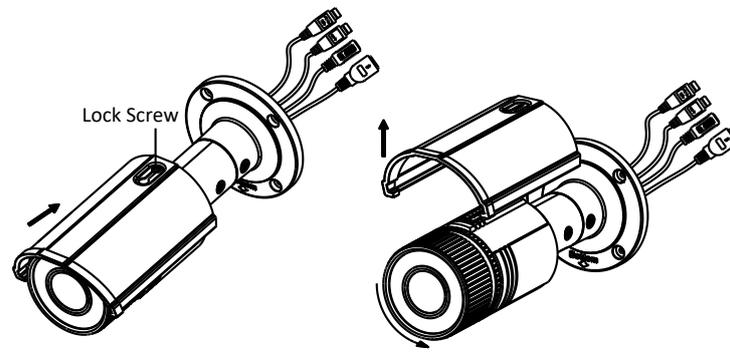

Figure 7-5 Disassemble the Camera
- 1). Loosen the lock screw on the sun shield to slide the sun shield according to the arrow direction as shown in Figure 7-5 (left).
- 2). Remove the sun shield according to the arrow direction as shown in Figure 7-5(right).
- 3). Remove the front cover by rotating it counterclockwise as shown in Figure 7-5 (right).